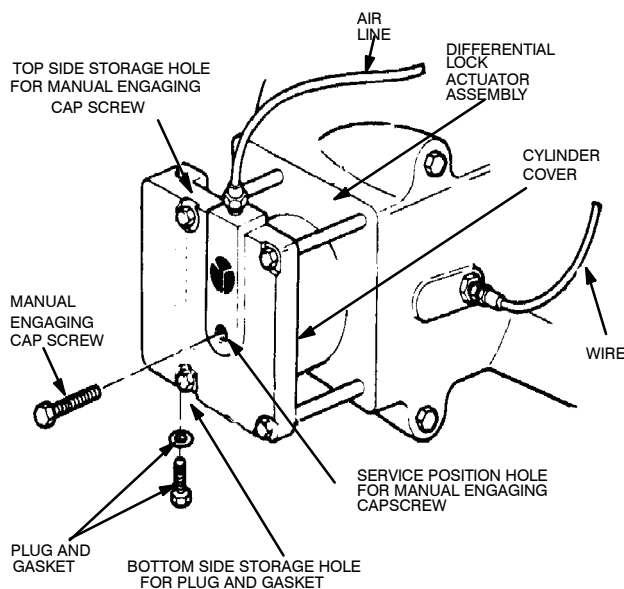

Figure 7. Manually Locking the Differential.
2.2 Manual Engaging Method. If an auxiliary air supply is not available or if the differential carrier is to be stored for later use, use this manual engaging method. See Figure 7.